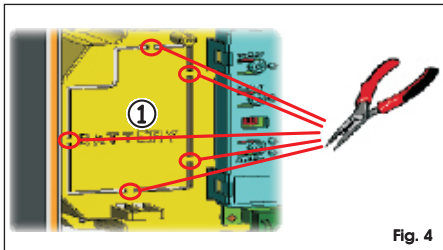

Fig. 4
This support (Fig. 4 ref. ①) was pre-moulded to permit the battery housing to be opened.